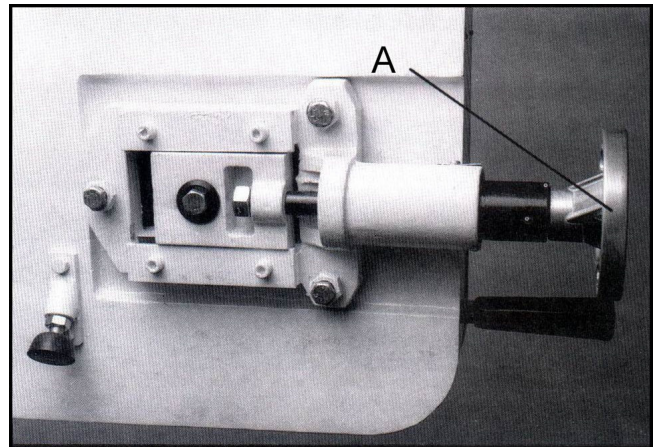

Fig. 6
5. Release blade tension by turning blade tensioning handwheel (A, Fig.6) counter-clockwise until blade is free.